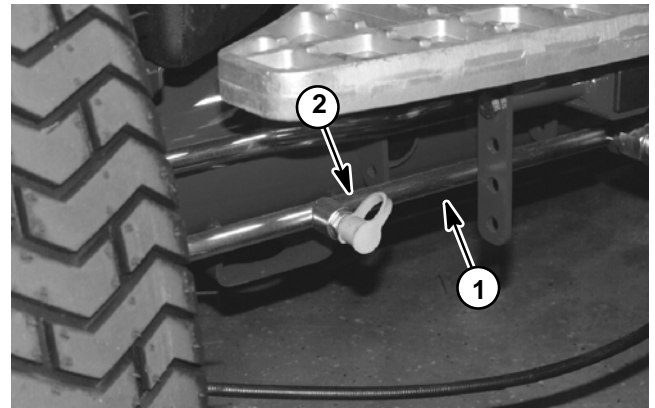
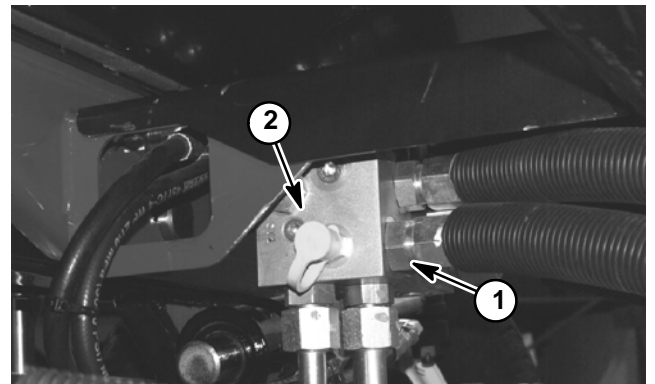

Figure 33
Figure 34
4. Locate traction circuit test port for direction to be tested. Forward test port is located on hydraulic tube between front wheels (Fig. 33). Reverse test ports are located on AWD hydraulic manifold (Fig. 34). Thoroughly clean test port.